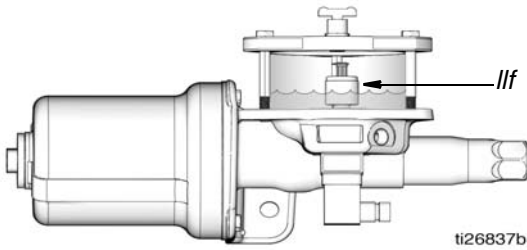

FIG. 11: Low level float in fully traveled down position
As oil is dispensed, the low level float begins to travel down. When the oil in the reservoir reaches low level, the fully traveled down float (shown in FIG. 11) closes the normally open low level switch and a low level signal is sent to the lubricator controller (J).